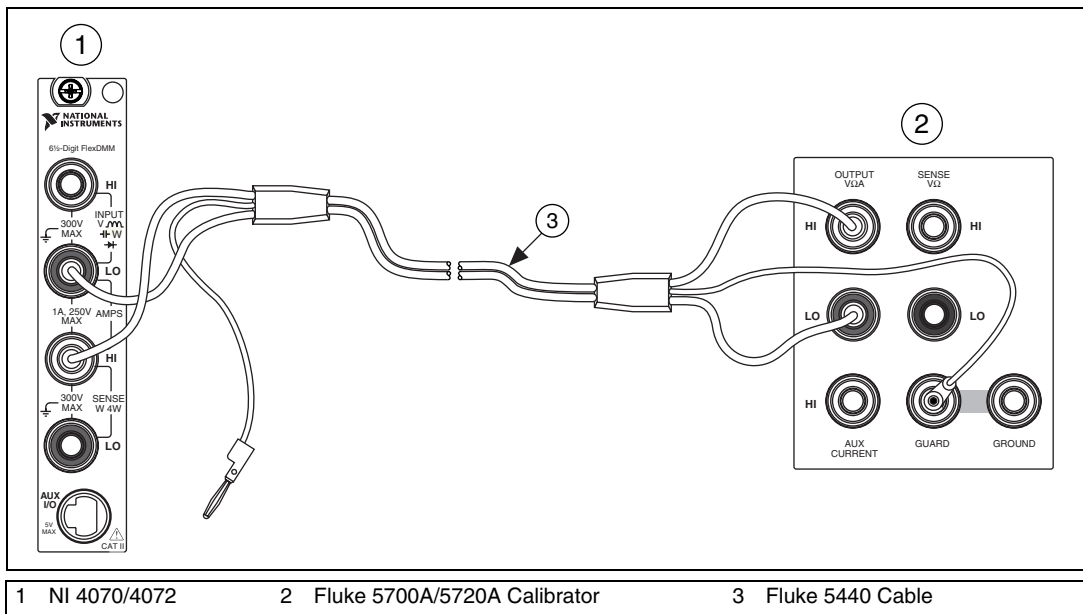

Figure 5. Cable Connections for Current
2. Fasten the connectors on one end of the Fluke 5440 cable to the NI 4070/4072 *HI SENSE* and *LO* banana plug connectors, and connect the connectors on the other end of the cable to the *HI* and *LO* calibrator binding posts. Figure 5 shows the correct connections. Table 9 lists the cable connections.
2. Fasten the connectors on one end of the Fluke 5440 cable to the NI 4070/4072 *HI SENSE* and *LO* banana plug connectors, and fasten the connectors on the other end of the cable to the *HI* and *LO* calibrator binding posts. Figure 5 shows the correct connections. Table 9 lists the cable connections.